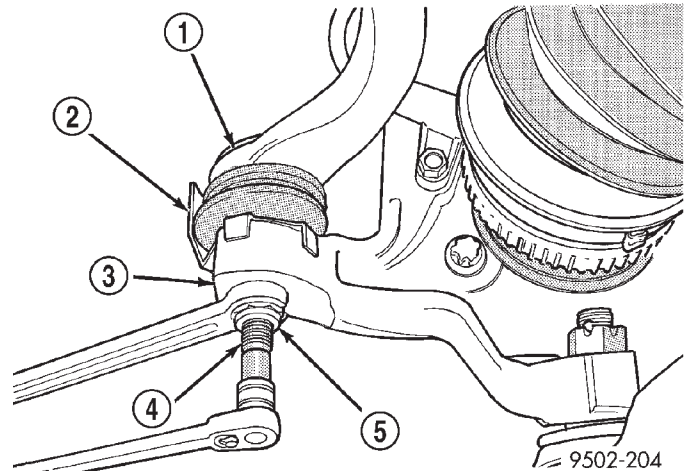
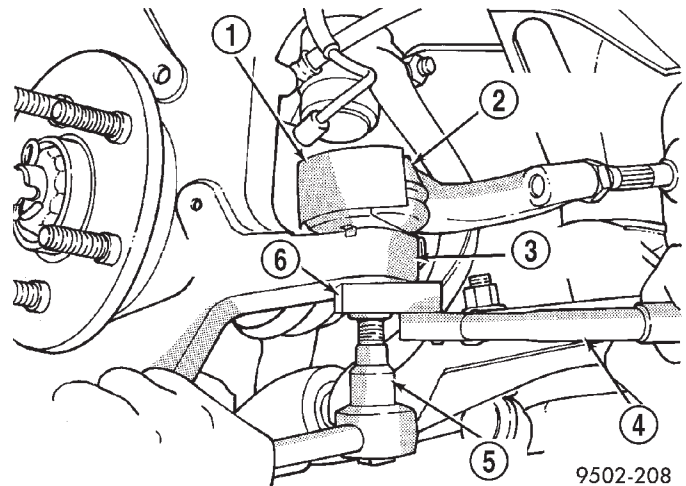

Fig. 19 Installing Tie Rod End Nut
Fig. 20 Torquing Tie Rod End Nut
(9) Install tie rod end into the steering knuckle. Start tie rod end to steering knuckle nut onto stud of tie rod end. While holding stud of tie rod end stationary (Fig. 19), tighten tie rod end to steering knuckle nut. Using a crowfoot and 11/32 socket, tighten the nut to 61 N·m (45 ft. lbs.) (Fig. 20).
(10) Install braking disc back on hub and bearing assembly.